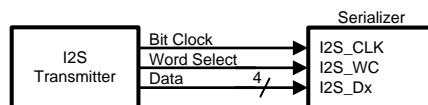
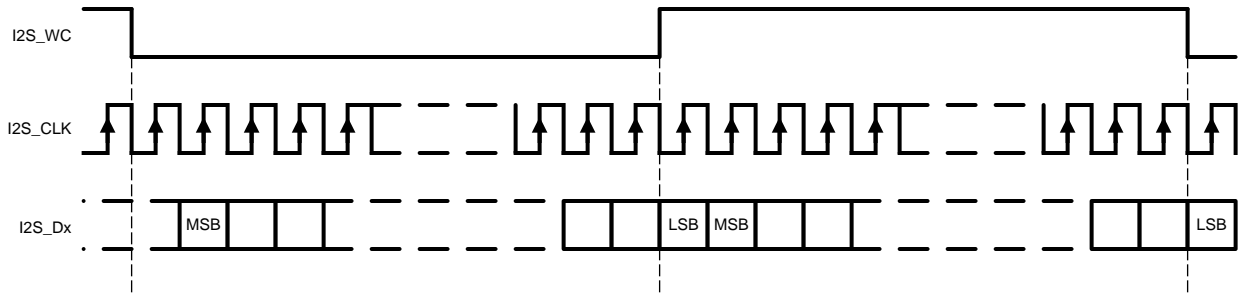

Figure 11. I²S Connection Diagram
Figure 12. I2S Frame Timing Diagram
The DS90UH929-Q1 serializer features six I²S input pins that, when paired with a compatible deserializer, supports 7.1 High-Definition (HD) Surround Sound audio applications. The bit clock (I2S_CLK) supports frequencies between 1 MHz and the lesser of IN_CLK/2 or 13 MHz. Four I²S data inputs transport two channels of I²S-formatted digital audio each, with each channel delineated by the word select (I2S_WC) input. Refer to Figure 11 and Figure 12 for I2S connection diagram and timing information.